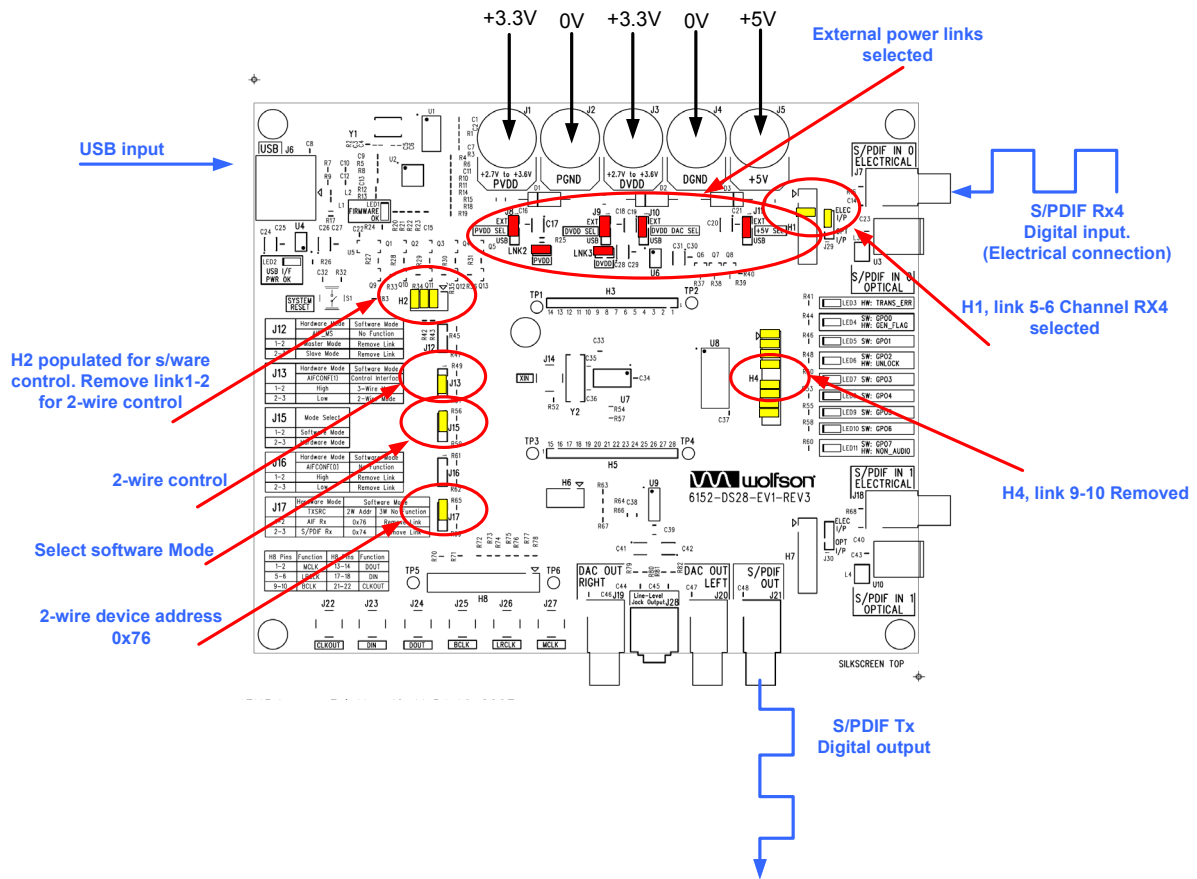

Figure 10 S/PDIF RX4 Input to S/PDIF Tx Configuration
- Figure 10 illustrates the jumpers which must be made on the board.
The jumpers, input signals and output signals are shown in Figure 10. The yellow jumpers are those that are required.